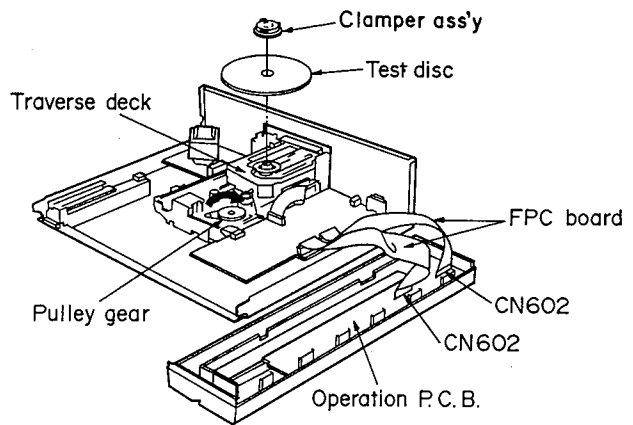

Fig. 2
3. Connect the 2 FPC board (CN601, CN602) as shown in Fig. 2.